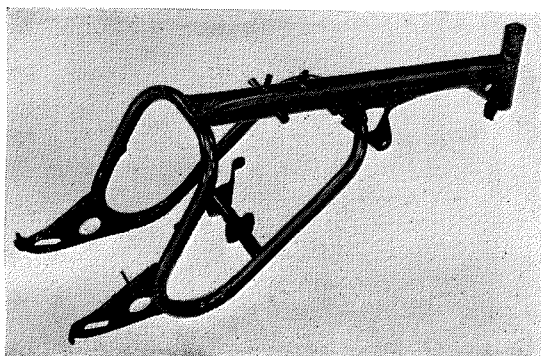

Fig. 76 Frame unit
1. Inspect the welded joints, crack, damage or twist to the pipe. Straighten the minor dent or twisting, weld the crack and paint the worn or scratched parts. Replace the twisted or badly dented frame with new one. (Fig. 76)